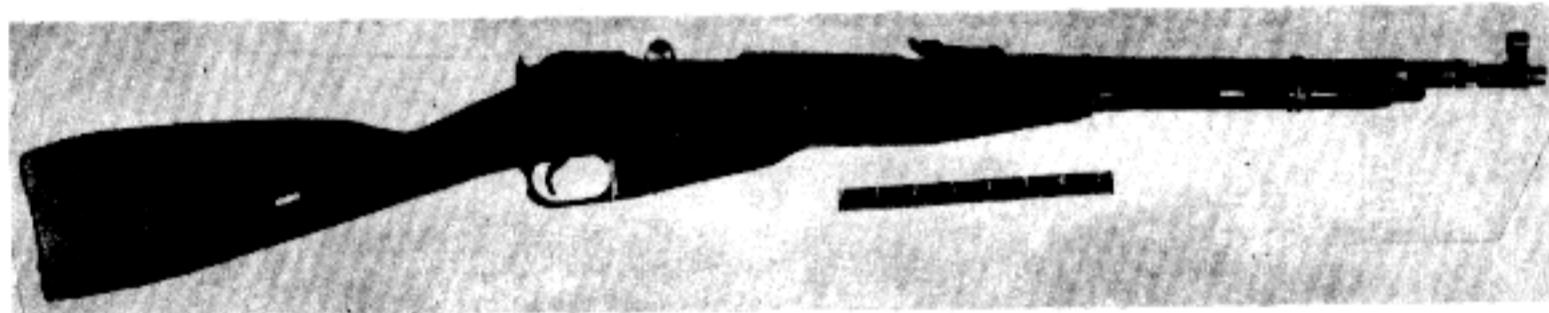

FIGURE 7. 7.62-MM CARBINE M1944.
c. The carbine M1944 (fig. 7), introduced during the latter part of World War II, is now considered standard. The permanently fixed bayonet folds down along the right side of the carbine stock when not in use. Except for a slightly longer barrel and the addition of the bayonet, the carbine M1944 is identical to the M1938.